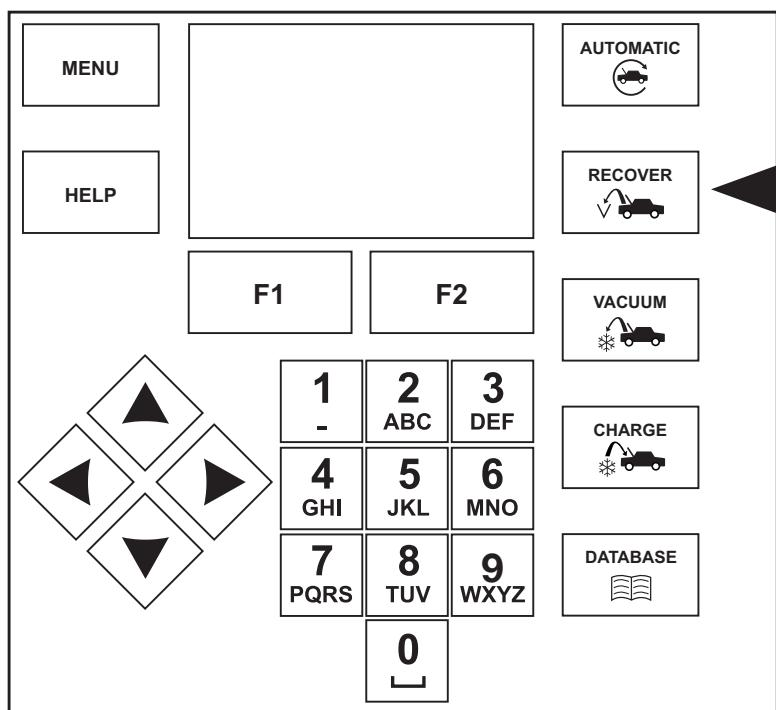

Figure 4
5. Press the **RECOVER** button on the control panel. See Figure 4.